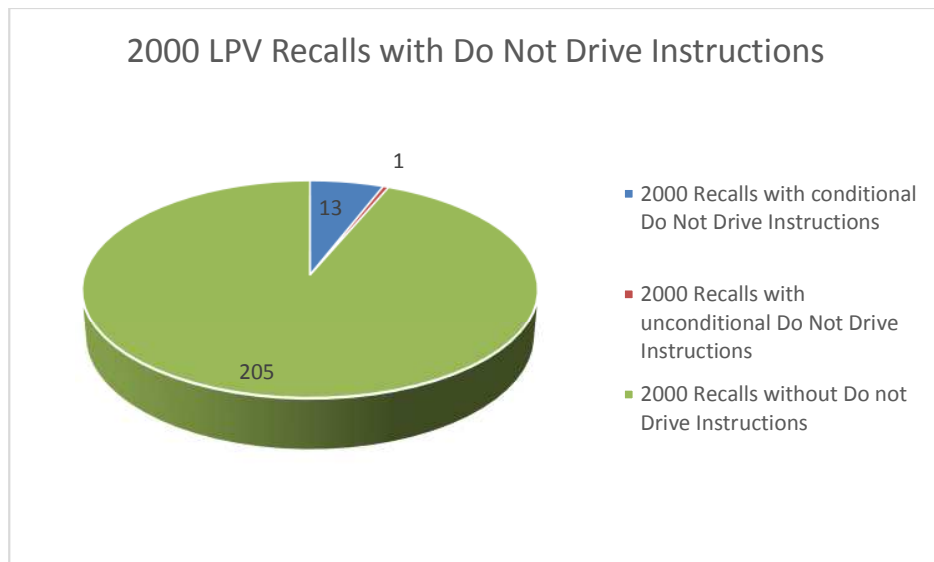

Figure 14. 2000 LPV Recalls with Do Not Drive Instructions
Fourteen (14) of the two hundred nineteen (219) 2000 LPV recalls contained DND instructions. Thirteen (13) of those DND instructions were conditional upon owner detection of a defect. One (1) recall had an unconditional “do not drive” vehicle recommendation. In the graph in figure 14 this recall is counted and categorized as a recall with “unconditional” DND instructions. For the text detailing the DND instructions for the 2001 LPV recalls see Appendix A-14.